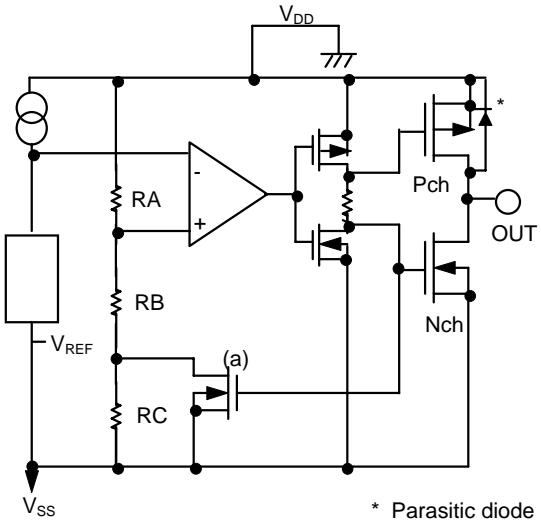
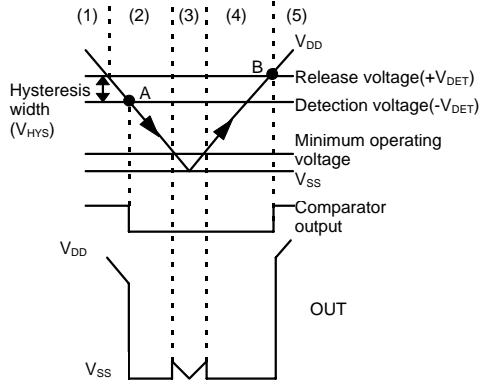

Figure 13
Figure 14
Hysteresis width is the voltage difference between a device's detection voltage and its release voltage (see Figure 14. $V_{HYS}=B-A$). By giving a device hysteresis, erroneous toggling of the output due to noise at the input is avoided.
- (2) When power supply voltage V_{DD} goes below $+V_{DET}$, the output continues to maintain the power supply voltage level, as long as V_{DD} remains above the detection voltage $-V_{DET}$. When V_{DD} does fall below $-V_{DET}$ (A in Figure 14), the Nch transistor goes ON, the Pch transistor goes OFF, and V_{SS} appears at the output. With the Nch transistor of Figure 13 (a) ON, the comparator input voltage is $RB/(RA+RB) \times V_{DD}$.
- (3) When V_{DD} falls below the minimum operating voltage, the output becomes undefined. However, output will revert to V_{DD} if a pull-up has been employed.
- (4) V_{SS} will again be output when V_{DD} rises above the minimum operating voltage. V_{SS} will continue to be output even when V_{DD} surpasses $-V_{DET}$, as long as it does not exceed the release voltage $+V_{DET}$.
- (5) When V_{DD} rises above $+V_{DET}$ (B in Figure 14), the Nch transistor goes OFF, the Pch transistor goes ON, and V_{DD} appears at the output.